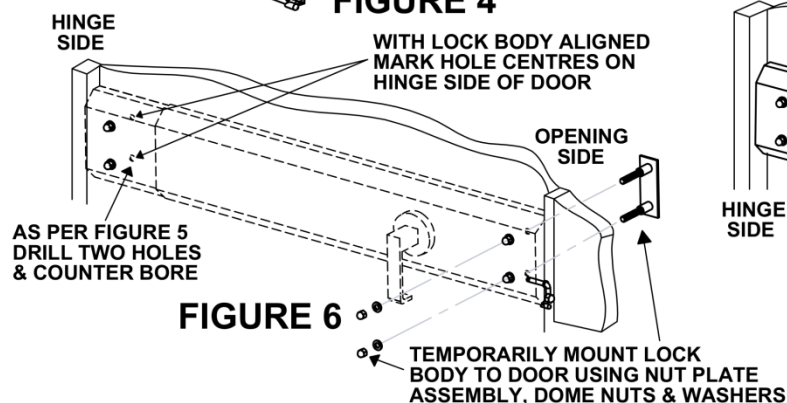

FIGURE 6
16. Fit nut plate assembly to door from outside at opening side of door & position lock body over the threaded rods. Ensure that the cylinder tail/square bar is aligned with the slot in the cam (external key access only). Fit dome nuts and washers. Align lock and mark mounting hole positions for hinge side mounting holes. (Fig. 6)